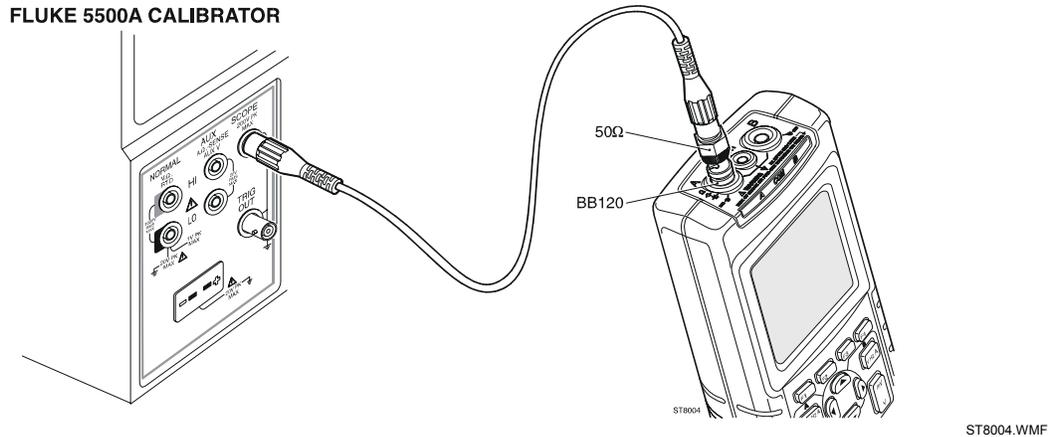

Figure 3-3. Test Tool Input A to 5500A Scope Output 50Ω
1. Connect the test tool to the 5500A as shown in Figure 3-3.
1. Connect the test tool to the 5500A as for the previous test (see Figure 3-3).